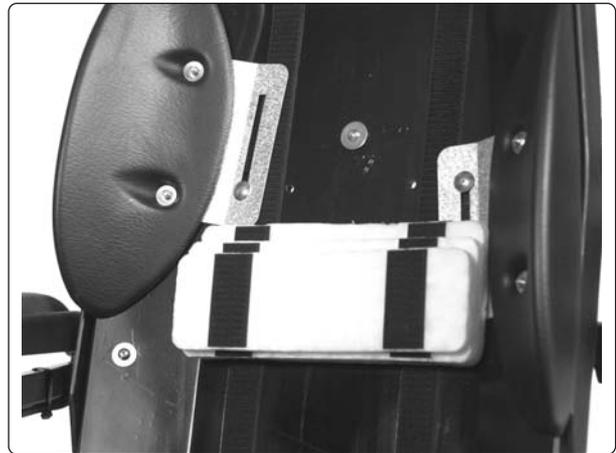

Fig. 50. Trunk rest and lumbar support adjustment.
2. Adjust the lumbar support as required, see Fig. 50.